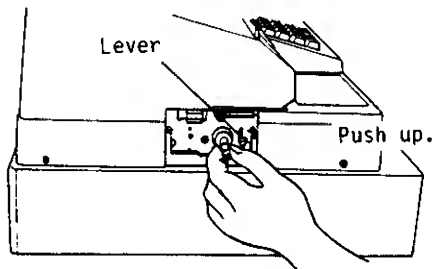

Fig. 3
4. Insert a new Ink Roll into the hole, push it all the way in, and push up the lever (Fig. 3).